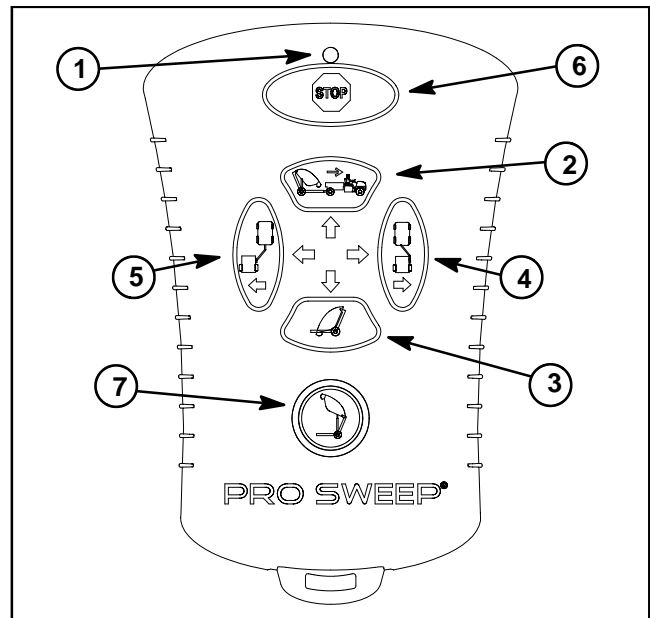

Figure 14
The remote transmitter (Fig. 14) is a solid state electrical device that sends radio frequency (RF) signal inputs to the sweeper control module for operator control of machine electrical operation. The remote transmitter has sufficient range to send an RF signal to the control module from the tow vehicle operator position.